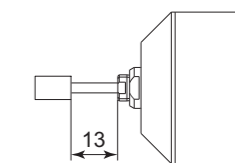

Fig. 11
- Do not exceed 13mm of overhang for mounted grindstones as shown in Fig. 11. If the overhang must exceed 13mm, reduce the motor speed in accordance with Table. 3.